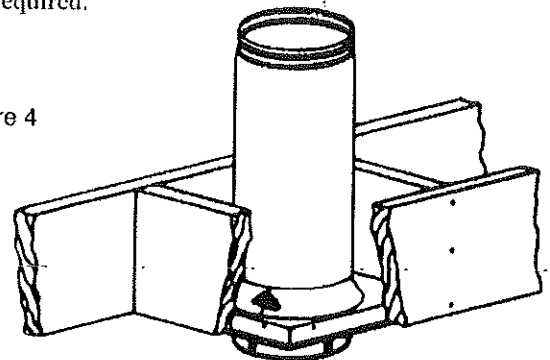

Figure 4
- Place a supporting collar in the groove at the bottom end of any standard pipe just above the locking ring. Tighten the screw so that the collar is firmly clamped into position in the groove. The pipe is now assembled properly to fit into the support plate (Figure 4). This pipe assembly will rest on the upper side of the support plate and provide the **REQUIRED 1-INCH CLEARANCE FROM COMBUSTIBLES**. The pipe will protrude below the support for connecting additional pipe from the vent to the appliance. A maximum of 60' of vent can be installed above the support before resupport is required.